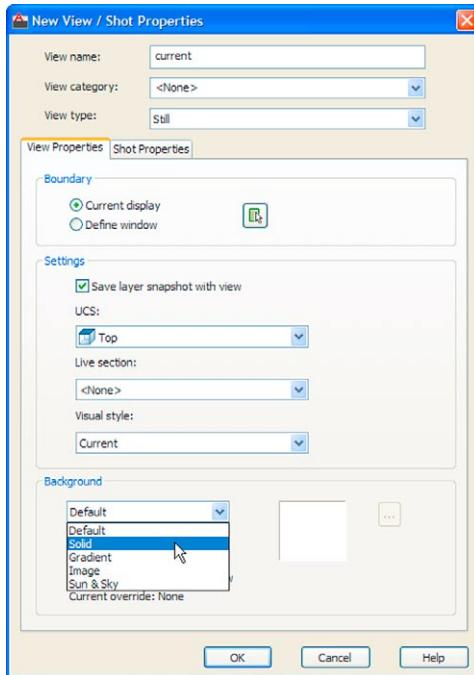

Fig. 15.16 The **New View/Shot Properties** dialog
2. The **New View/Shot Properties** dialog (Fig. 15.16) appears. Enter **current** (or similar) in the **View name** field. In the **Background** popup list click **Solid**. The **Background** dialog appears (Fig. 15.17).